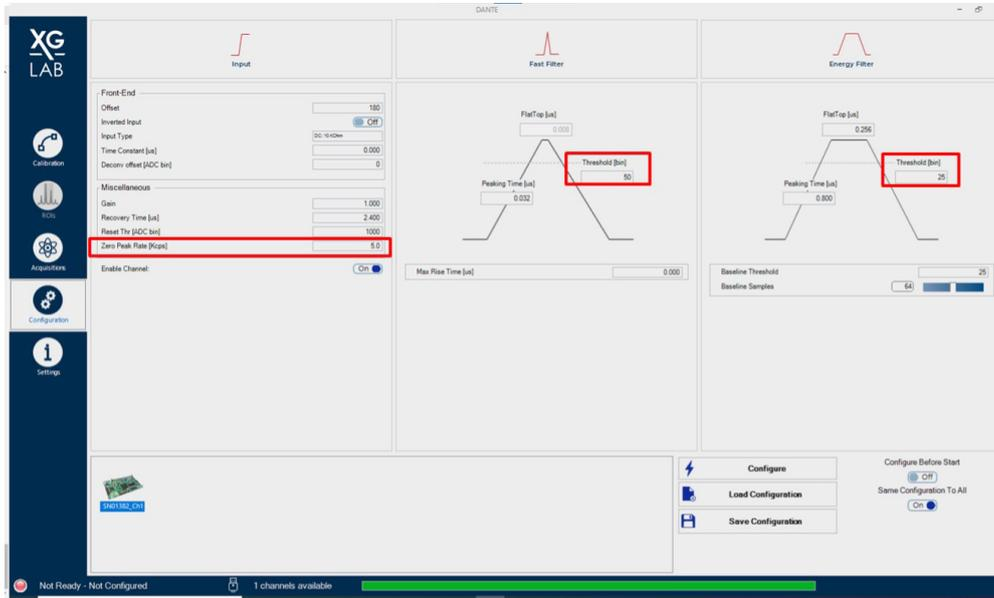

Figure 5: Zero Peak Rate parameter (left), Fast Filter threshold (center), Energy Filter threshold (right) highlighted
- set to “0” the Zero Peak Rate [Figure 5]
- set to “0” the Energy filter threshold [Figure 5].
- set to “0” the Energy filter threshold [Figure 5]